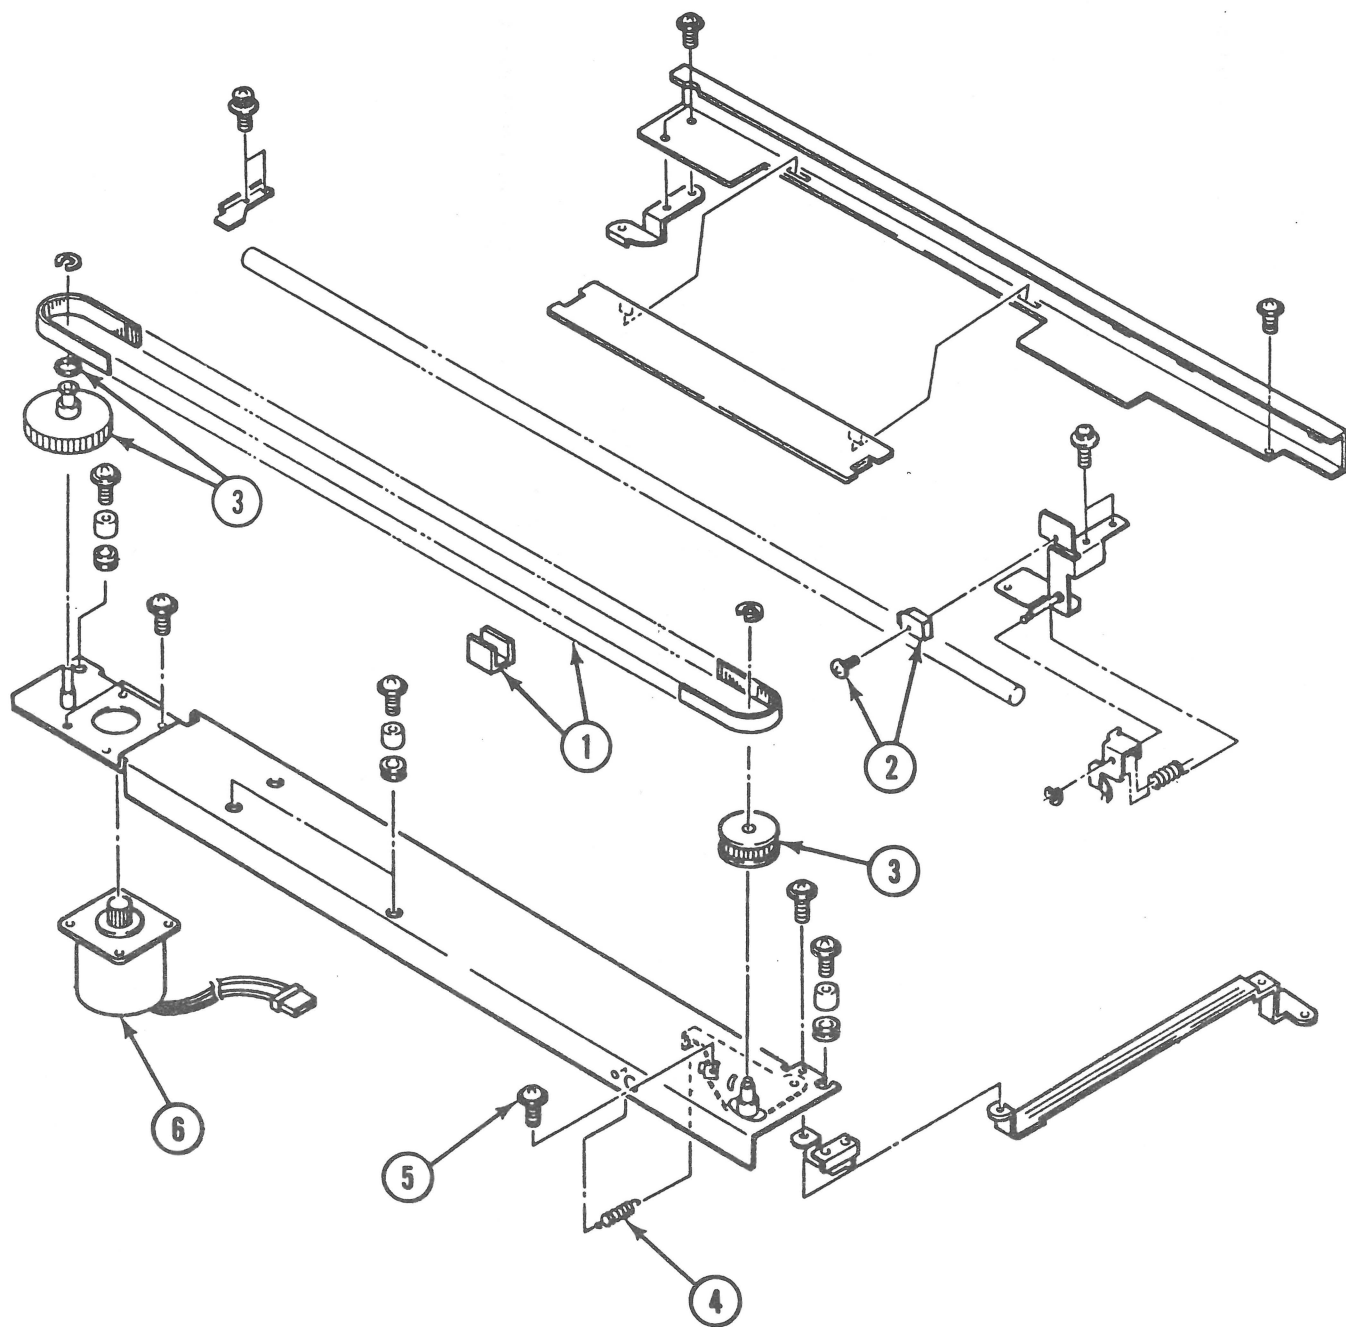

FIGURE 3
□ **CARRIER ASSEMBLY (Figure 3)**